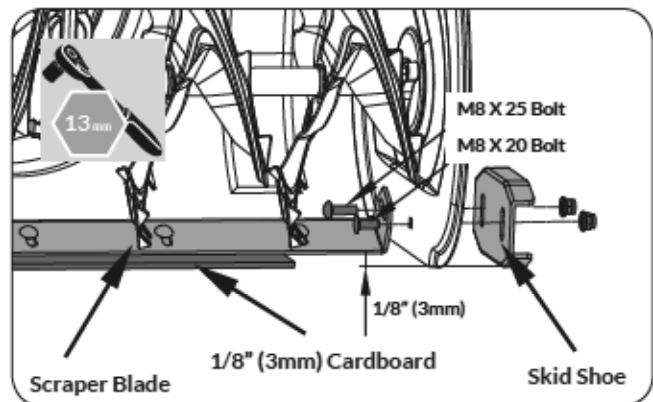

Figure 3
3. Attach the skid shoes to the sides of auger housing with the bolts and nuts. The shorter M8X20 bolts should be in the front holes while the longer M8X25 bolts in the rear holes. Move the skid shoes down as far as possible. Be sure both skid shoes are adjusted evenly. Tighten securely. (See **Figure 3**)